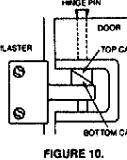

FIGURE 10.
- Connect the pilaster portions to the door portions of hinges by inserting the hinge pin through the top and bottom of the door until the pin is flush with the door edge. See figure 10.